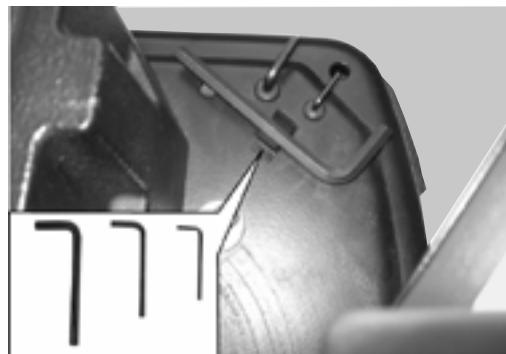
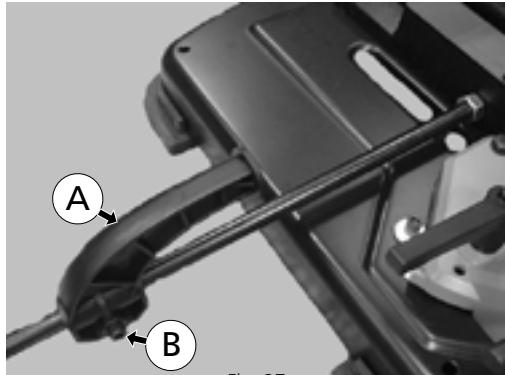

Fig. 26
Fig. 27
Three Allen tools are available (Fig. 26) which allow for the keys to be kept with which different adjustments can be made to the band saw.
The end stop bar (A) allows for the cut length to be set, repeating cuts with the same length. To move the end stop bar, loosen the screw with the hexagonal head (B) (fig 27) with the corresponding allen key that is located on the back of the base of the band saw (Fig. 26).
Elements of Fig. 27